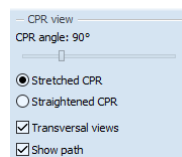

Figure 321 –CPR view settings
- To change the position of the transversal views along the curved plane, drag and drop yellow intersection line belonging to the central (B) transversal view.
- To show/hide CPR path check/uncheck the **Show path** check box in the **CPR view** part in the **CPR tool** (see Figure 321).
- To change the current CPR projection, click **Stretched CPR** or **Straightened CPR** radio button in the **CPR view** part in the **CPR tool** (see Figure 321).
Transversal views can be hidden anytime by unchecking **Transversal views** check box in the in the **CPR view** part in the **CPR** tool (Figure 321).